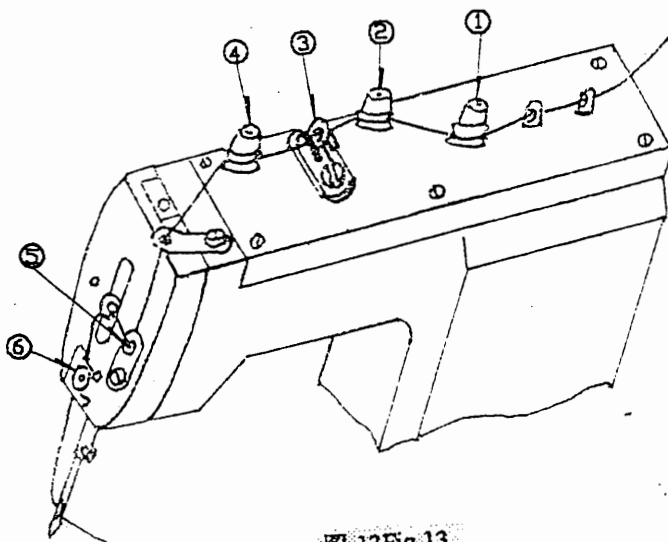

图 13 Fig. 13
6. Threading and thread tension discs (as shown in Fig.13).
Thread the machine in accordance with the diagram as shown in Fig.13. Threading improperly will affect the sewing quality directly.
6. 穿线方法和压线器压力的调节(见图 13)
当穿线错误时, 会直接影响缝纫质量。请按图 13 正确穿线。